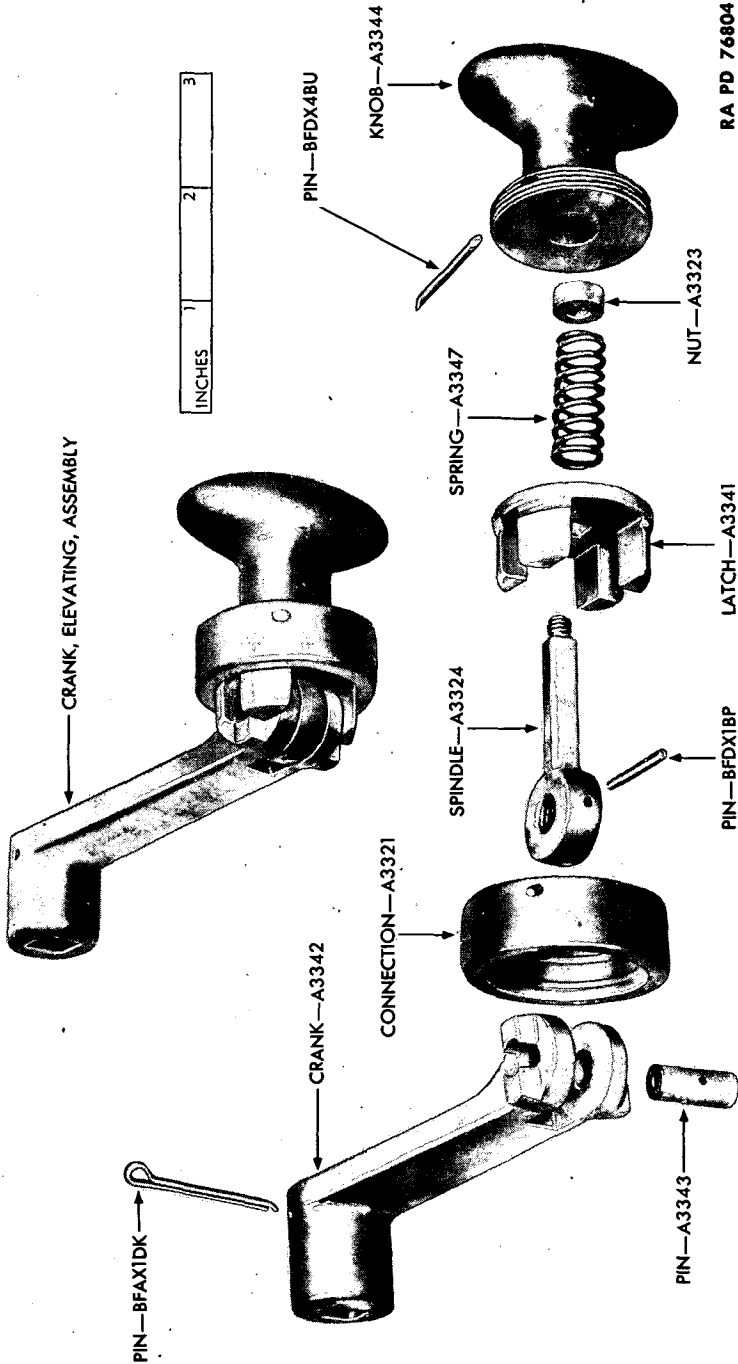

Figure 73—Elevating Crank
(b) Drive pin BFDX4BU from crank knob connection and knob, and unscrew knob from connection (fig. 73).
(4) ASSEMBLY AND INSTALLATION OF ELEVATING CRANKS (fig. 73).